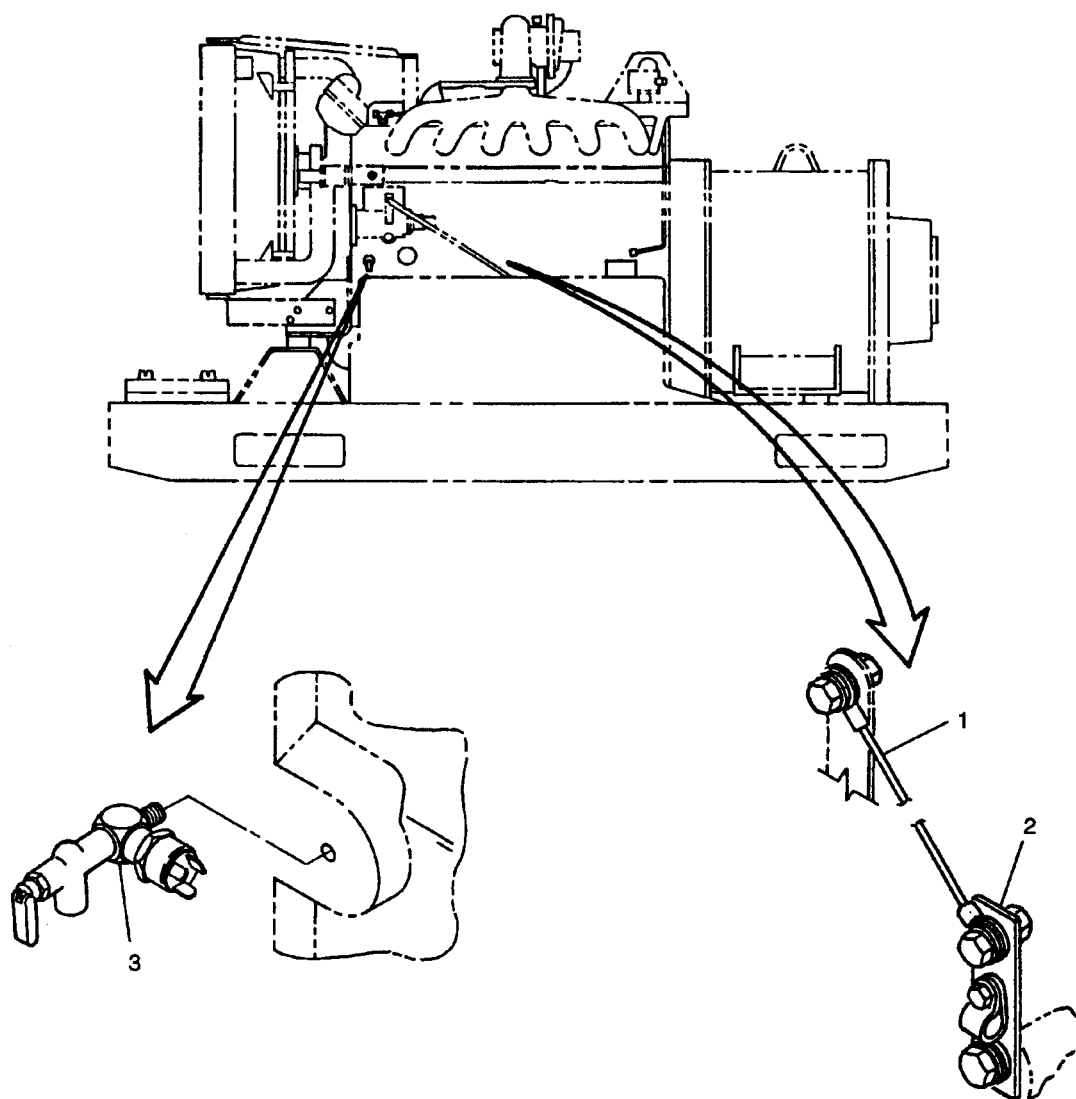

FIGURE 3-17. Engine Components (Left Side)
- b. Disconnect throttle lever cable (1, FIGURE 3-17) from fuel injection pump of old engine.
- c. Remove throttle lever cable bracket (2), with cable (1) attached, from old engine and install on new engine.
- d. Connect throttle lever cable (1) to fuel injection pump lever of new engine.
- (1) Oil sample valve and low oil pressure switch assembly (3, FIGURE 3-17).